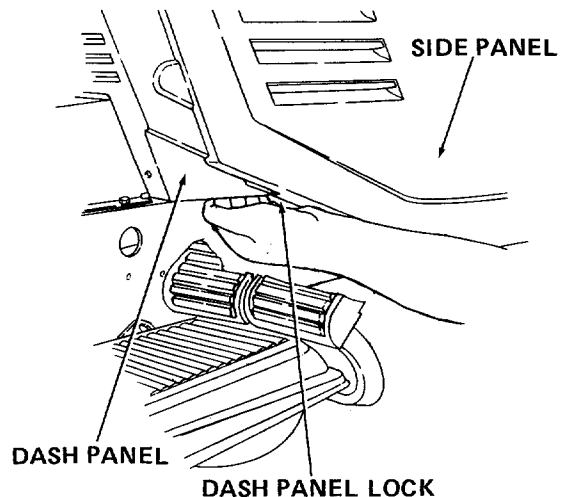

Figure 22
- Gently pull tip of dash panel toward you and push in and engage dash panel lock. (See Figure 22.)